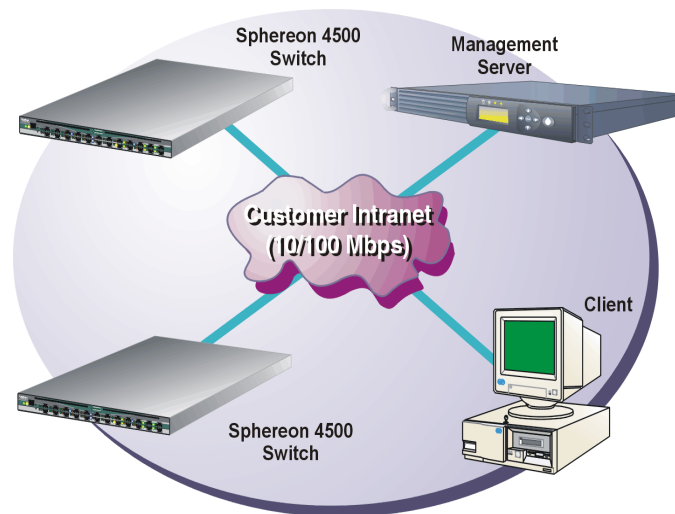

Figure 1-6 Typical Network Configuration (One Ethernet Connection)
- Part of the dedicated 10/100 Mbps segment (LAN 2) that provides access to managed switches. This switch-to-server connection is part of the required equipment installation. Connection of client PCs and workstations can be through the McDATA Ethernet hub or through the customer intranet. A network configuration using the customer intranet and one Ethernet connection through the server is shown in Figure 1-6.